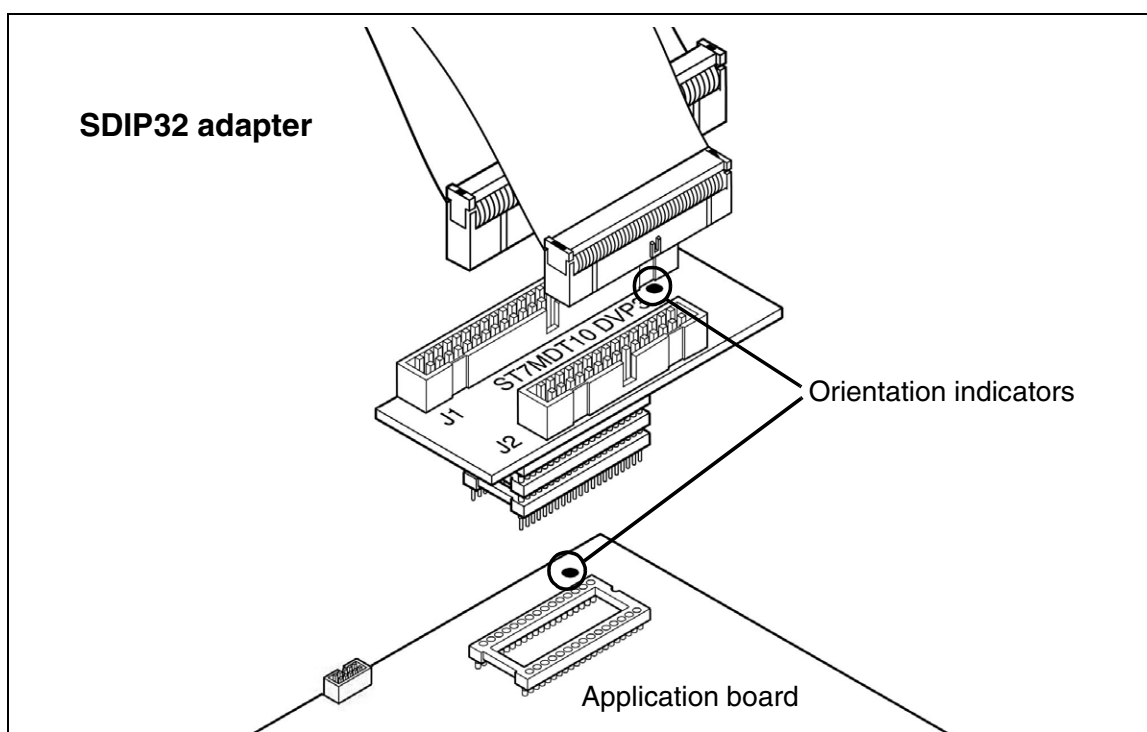

Figure 9: SDIP32 connection to application board
- 4 Plug the other end of the 34-pin flat cable into J1 on the SDIP32 adapter (ref.: DB585), as shown in Figure 9. Likewise, plug the 26-pin flat cable into J2 on the SDIP32 adapter.